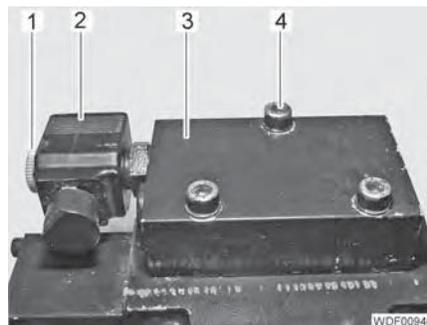

Fig. 175 Valve block attachment
- Unscrew the nut (Fig. 175,1).
- Remove the coil (Fig. 175,2).
- Unscrew the 3 screws (Fig. 175,4).
- Remove the valve block (Fig. 175,3).
- Position the valve block (Fig. 175,3).
- Screw in the 3 screws (Fig. 175,4) with spring lock washers and tighten with a tightening torque of 20 Nm.